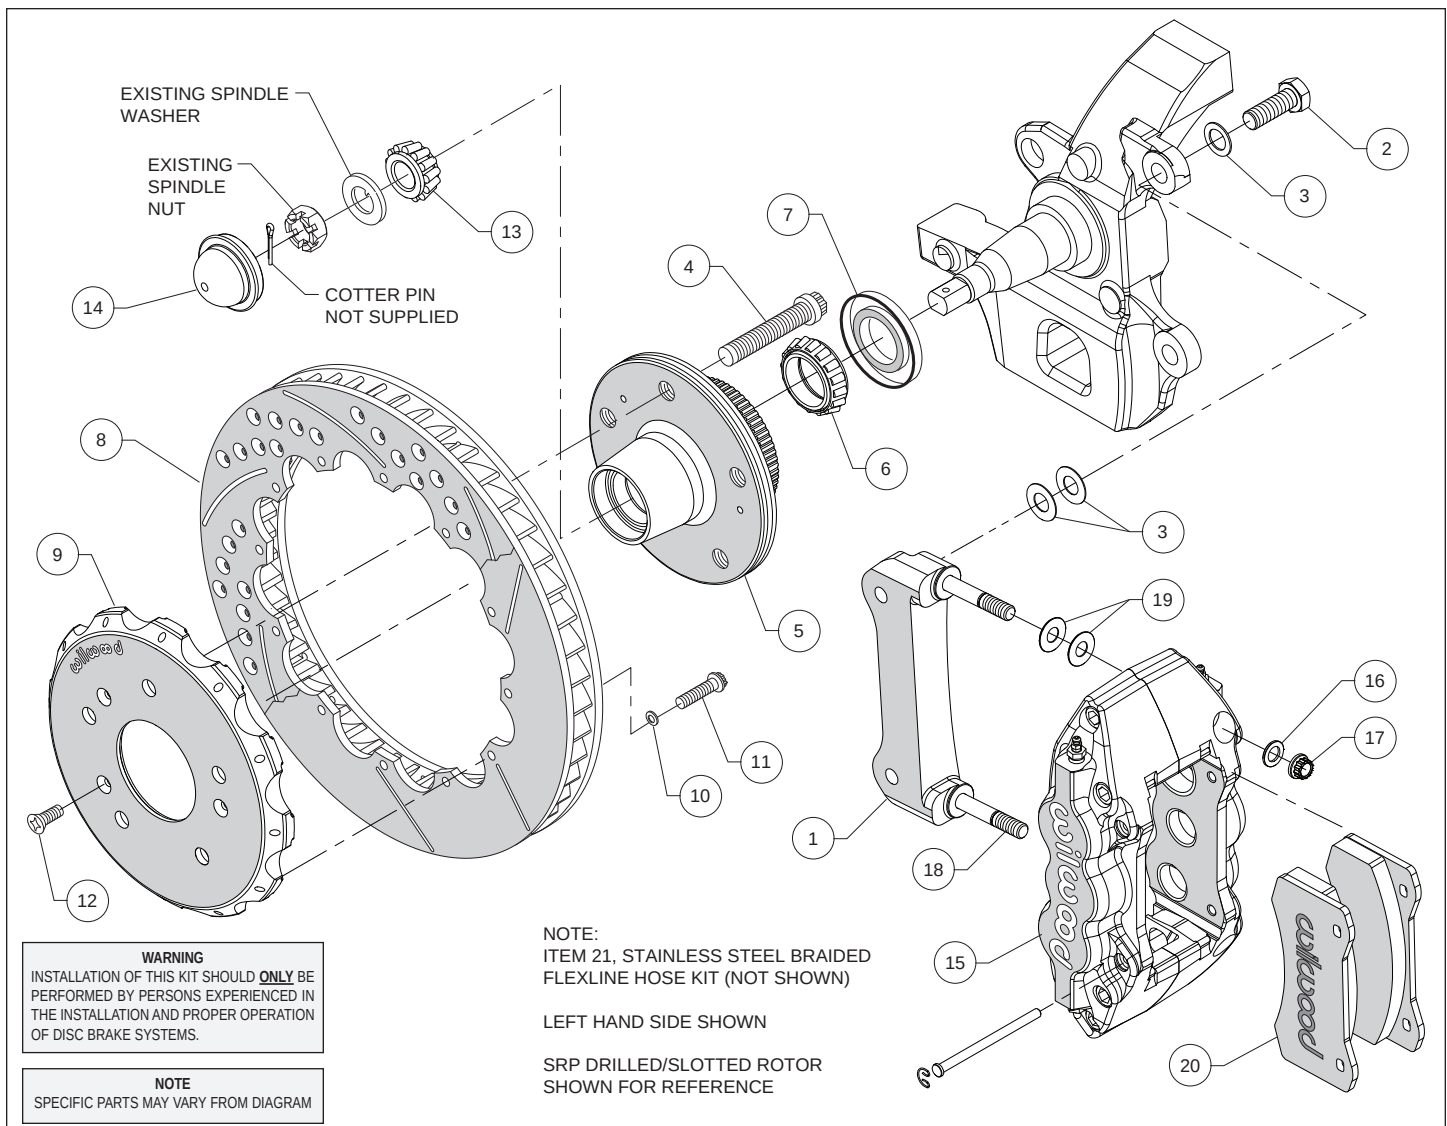
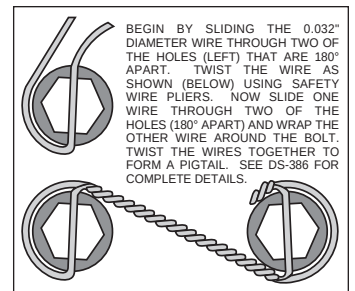

Figure 1. Typical Installation Configuration
Figure 3. Safety Wire Diagram
Assembly Instructions (numbers in parenthesis refer to the parts list on the preceding page, and Figure 1):
- The caliper mount bracket (1) should initially be installed with clean, dry threads on the mounting bolts. Orient the bracket as shown in Figure 1 and Photo 1, and install using bolts (2) and shims (3). Initially place two .029" thick shims (3) on each bolt between the bracket and spindle, Figure 1. Temporarily tighten the mounting bolts. **NOTE:** *The bracket must fit squarely against the mounting points on the spindle.* Inspect for interference from casting irregularities, machining ridges, burrs, etc. Later, after the caliper alignment has been checked, the mount bolts will be secured using red *Loctite*® 271.
- Install the grease seal (7) by pressing into the backside of the hub (5), flush with the end of the hub, Photo 4.
- Orient the rotor (8) and the hat (9) as shown in Figure 1 and Photo 5. Attach rotor to hat using bolts (11) and washers (10). Using an alternating sequence, apply red *Loctite*® 271 to the threads, and torque to 155 **in-lbs**. For an added measure of security, the bolts may be safety wired using standard 0.032 inch diameter stainless steel safety wire as shown in Figure 3. Refer to Wilwood's data sheet DS-386 (available at www.wilwood.com/Pdf/DataSheets/ds386.pdf) for complete safety wire installation instructions.
- **NOTE:** This kit contains distinct right and left hand calipers that must be mounted in a specific direction, as described below. Lubricate the caliper mounting studs (18) with lightweight oil. Initially place two .030" thick shims (19) on each stud between the caliper and the bracket, as shown in Figure 1 and Photo 9. Mount the caliper (15) onto the bracket (1) using lock nuts (17) and washers (16), Figure 1. Ensure that the caliper is mounted so the largest pistons are at the rotor exit end of the caliper, in relation to the direction of rotor rotation. Temporarily tighten the lock nuts and view the rotor through the top opening of the caliper. The rotor should be centered in the caliper, Photo 10. If not, adjust by adding or subtracting shims (3) between the bracket and the spindle. Always use the same amount of shims on each of the two mounting bolts. Once the caliper alignment is correct, remove the bracket mounting bolts one at a time, apply red *Loctite*® 271 to the threads, and torque to 77 ft-lb.